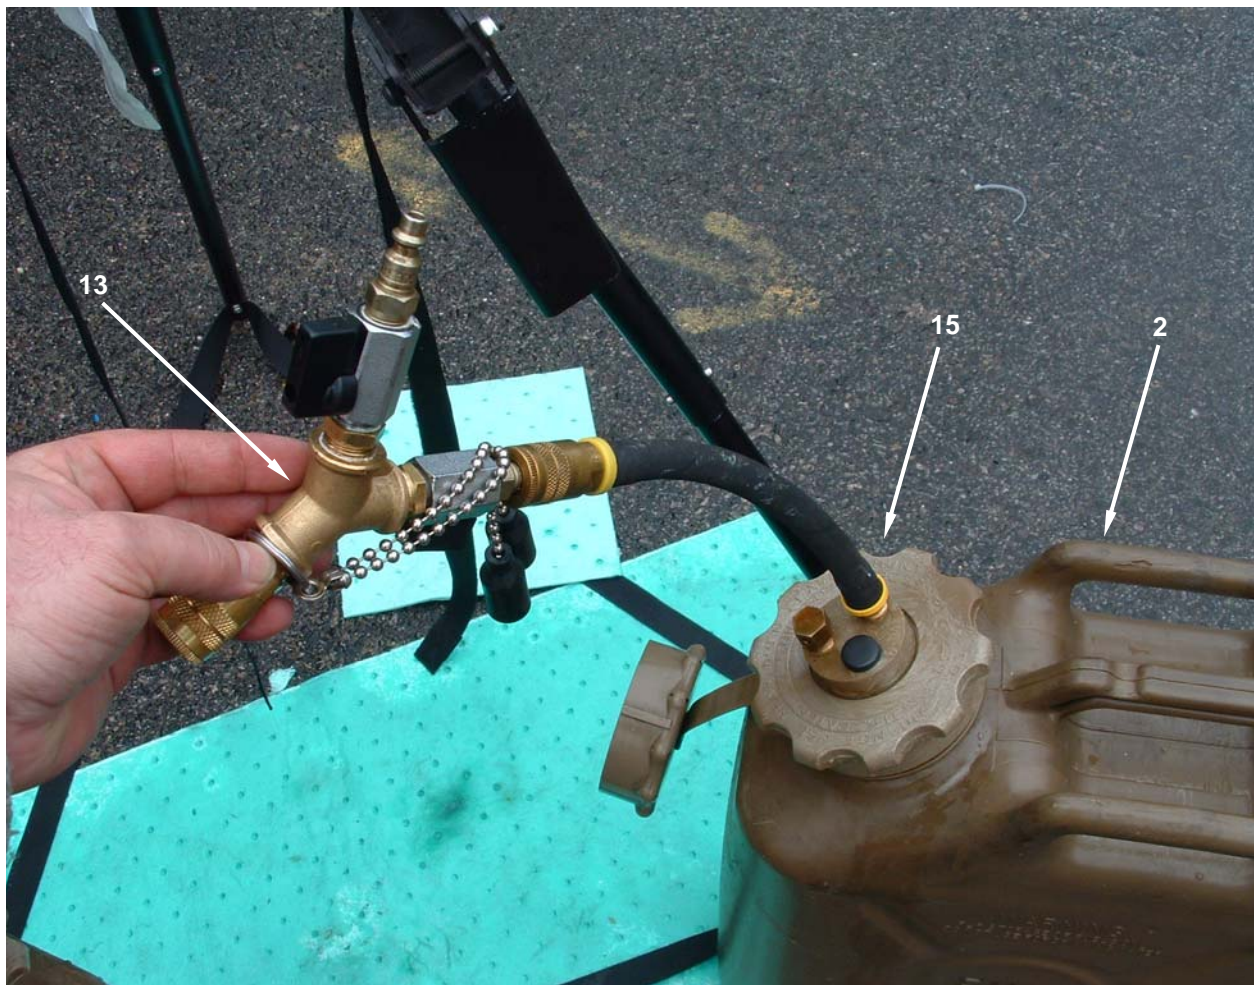

Figure 18. Prepare for Movement – Draining the Y-Adapter and the Gravity Feed Adapters.
8. Remove the Y adapter (**Figure 18, Item 13**) from one fuel can (**Figure 18, Item 2**).
9. Raise the Y adapter (**Figure 18, Item 13**) above the can (**Figure 18, Item 2**), open both valves, and allow the gravity feed adapter (**Figure 18, Item 15**) to drain into the fuel can for 30 seconds.
10. Close both valves on the Y adapter (**Figure 18, Item 13**).
11. Remove the Y adapter (**Figure 18, Item 13**) from the fuel can (**Figure 18, Item 2**), and connect to the remaining fuel can.
12. Raise the Y adapter (**Figure 18, Item 13**) above the can (**Figure 18, Item 2**), open both valves, and allow the gravity feed adapter (**Figure 18, Item 15**) to drain into the fuel can for 30 seconds.
13. Close both valves on the Y adapter (**Figure 18, Item 13**).